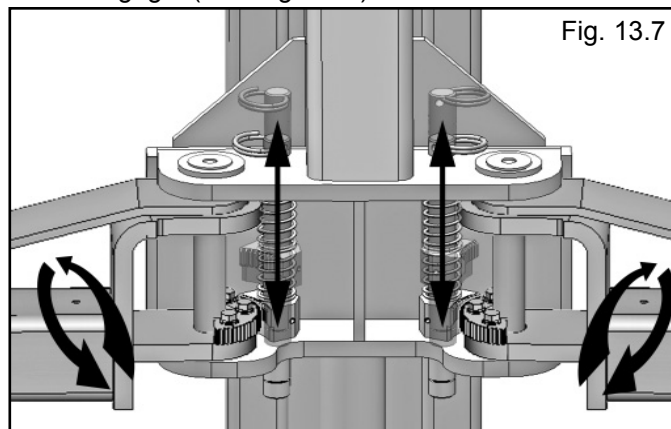

Fig. 13.7
- Verify the operation of the Arm restraints by pulling up on the Key Ring of the Arm Restraint Pin. Pivot the arms back and forth and test the operation of the Arm Restraint Pin in various positions. When releasing the Arm Restraint Pin the Pin should drop and the Gears should engage. (See Fig. 13.7)